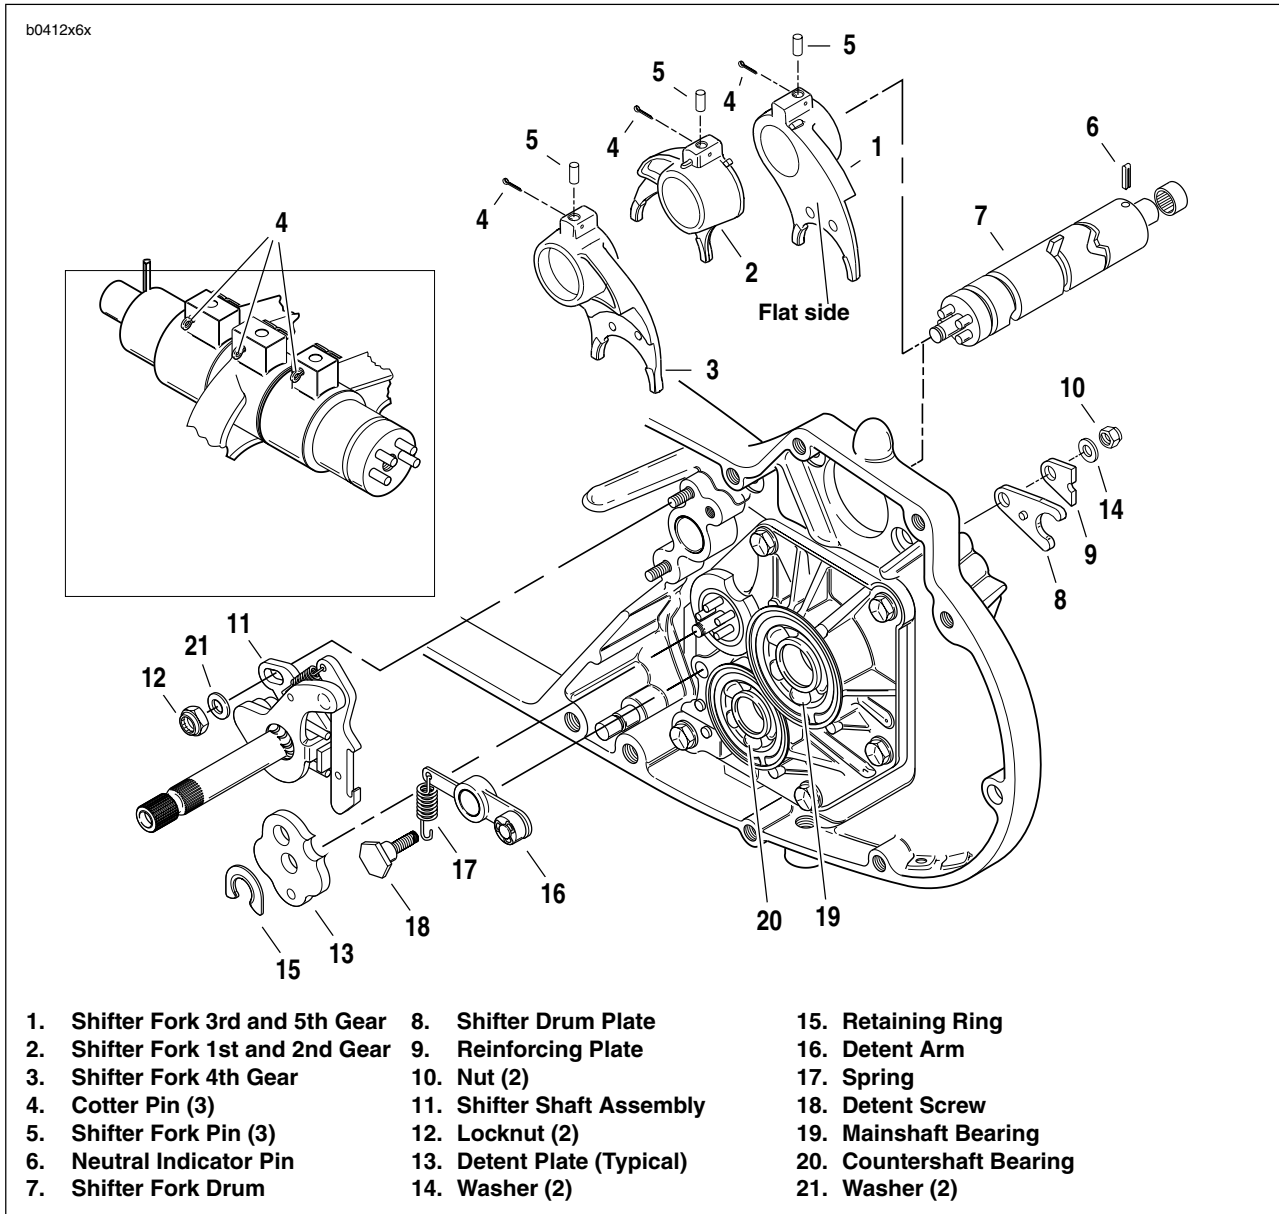
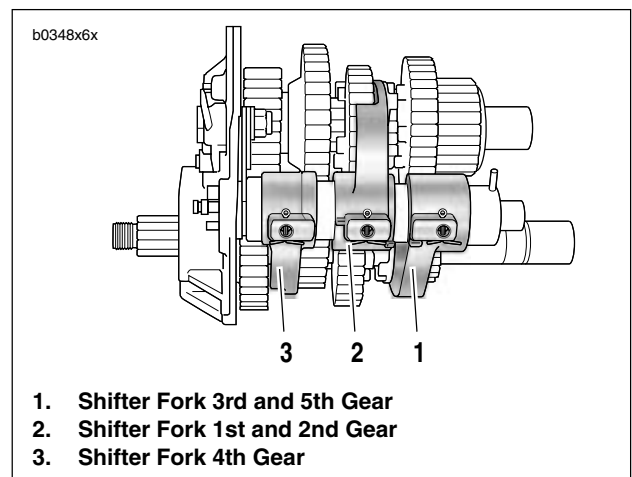

Figure 6-29. Shifter Mechanism
Figure 6-30. Shifter Fork Identification
2. See Figure 6-29. Remove nut (10), washer (14), detent screw (18), plates (8, 9), detent arm (16) and spring (17).
3. Remove and discard the three fork cotter pins (4).
4. Remove three shifter fork pins (5). A small magnet is useful in freeing the fork pins (5).
5. Slide shifter fork drum (7) away from access door, through shifter forks. The neutral indicator pin prevents removal in the other direction.
1. See Figure 6-29. Clean all parts except bearings (19, 20) with solvent.
1. See Figure 6-30. Identify all shifter forks before assembly. Note shape of fork and location of fork pin holes.
- b. Place 3rd and 5th gear shifter fork (1) in the fork groove of mainshaft 2nd gear. Be sure the flat side of fork is facing the access cover.
- c. Place 1st and 2nd gear shifter fork (2) in the fork groove of countershaft 3rd gear. Be sure the flat side of fork is facing away from the access door.
- d. Place 4th gear shifter fork (3) in the fork groove of mainshaft 1st gear. Be sure the flat side of fork is facing away from the access door.
3. See Figure 6-29. Install shifter shaft drum.
- a. Position the shifter drum shaft so that the neutral indicator pin (6) is upward. The shaft is then in the neutral position.
- b. Insert the pin end of shifter drum shaft (7) through the hubs of shifter forks (1, 2 and 3) and through the bearing in access cover.
The cotter pins must be inserted through the shifter forks as shown in Figure 6-30. This will prevent possible damage to the cotter pins.
4. See Figure 6-29. Secure shifter mechanism.
- a. Lubricate the three shifter fork pins (5) with SPORT-TRANS FLUID.
- b. Drop fork pins (5) through the holes in shifter forks.
- d. Secure shifter fork pins with **new** cotter pins (4).